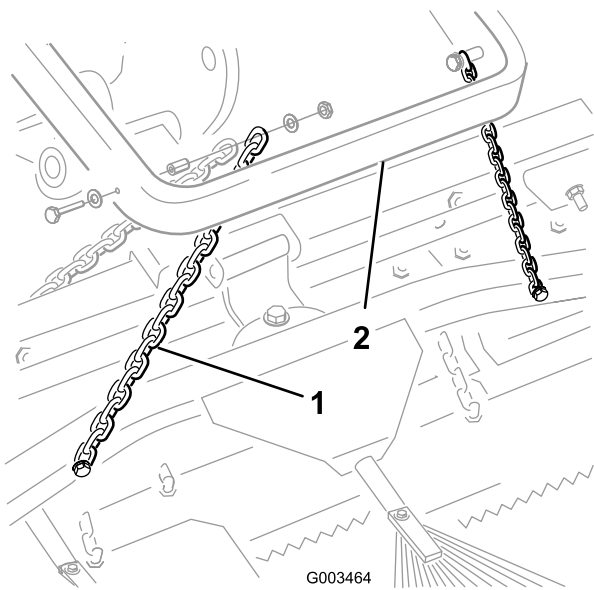

Figure 11
- A. Unhook or disconnect the transport chains from the lift arm as shown in Figure 10 or Figure 11.